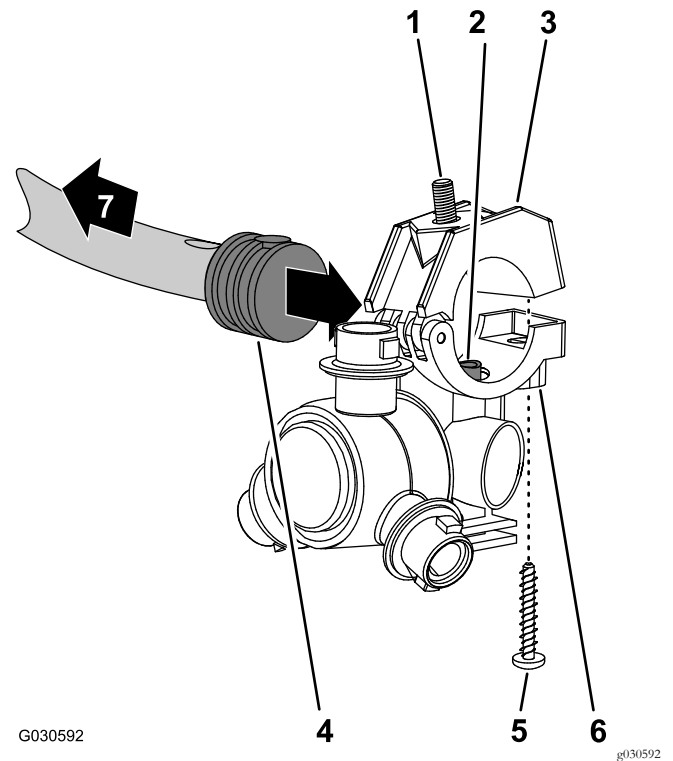
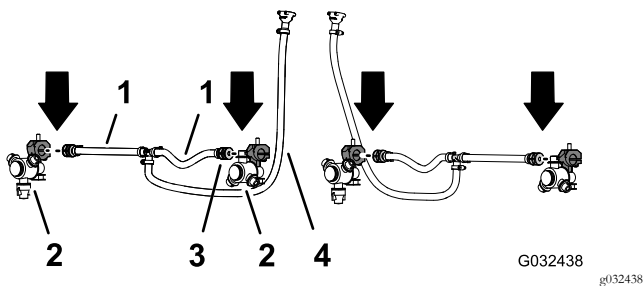

Figure 79
Figure 80
2. Working with the 2 sprayer nozzle from the GeoLink spray system finishing kit, remove the stainless steel screw that secures the upper clamp half to the saddle (Figure 79).
3. Locate the hole in the side of single barbed-hose shank at the end of the hose 25 cm (10 inches) of the hose assembly (sprayer valve 5 or 6) for the center boom section (Figure 79 and Figure 80).
4. Align the transfer tube in the saddle of a sprayer nozzle (Figure 79) with the hole in the side of the single barbed-hose shank (1/2 inch).
5. Close the upper clamp half around the barbed-hose shank and secure the clamp half and spray-nozzle body (Figure 79) with the stainless steel screw (#12 x 1-1/4 inches); torque the stainless steel screw to 14 to 18 N·m (20 to 25 in-lb).
6. Working with the sprayer nozzle, hex-head bolt, and stainless steel screw that you removed in steps 1 and 2 of Removing the Sprayer Nozzles \(page 31\), repeat steps 3 through 5 to the single barbed-hose shank (Figure 79 and Figure 80) at the end of the other hose 25 cm (10 inches).
7. Working with the 2 sprayer nozzles that you removed in step 4 of Removing the Sprayer Nozzles \(page 31\), repeat steps 3 through 5 to the single barbed-hose shanks of the other hose assembly (sprayer valve 5 or 6) for the center boom section (Figure 79 and Figure 80).